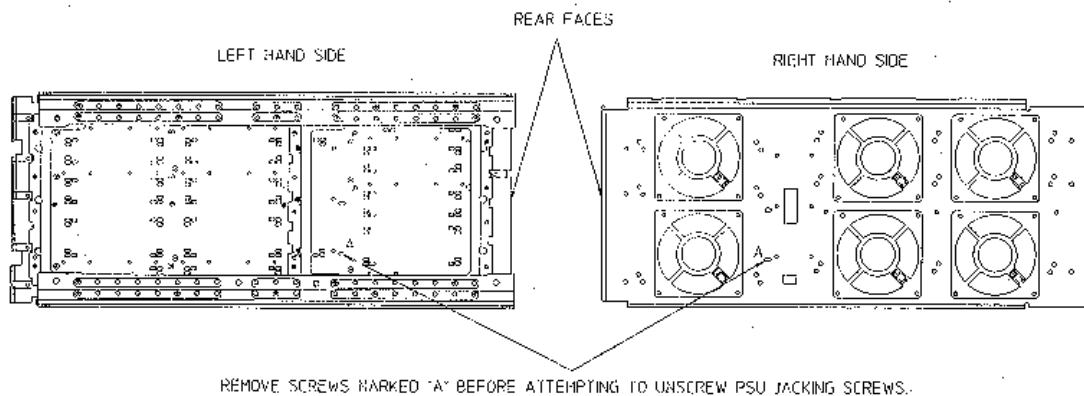

Figure 15
4. Refer to FIG 15 and remove the two screws marked "A", holding the power supply module to the side-frames of the main chassis.